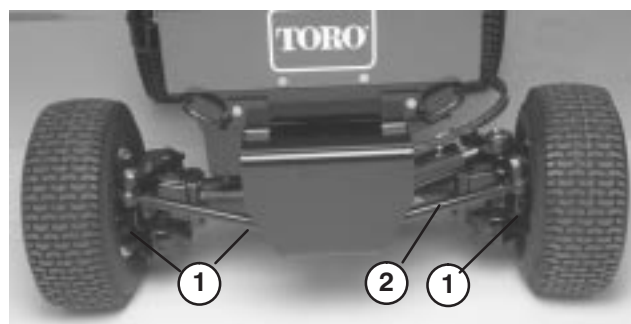

Figure 50
2. Clean area around the (3) drain plugs, (1) on each end and (1) in the center (Fig. 50).
2. Remove nuts securing one tie rod ball joint to mounting bracket on axle and disconnect ball joint from axle (Fig. 50).